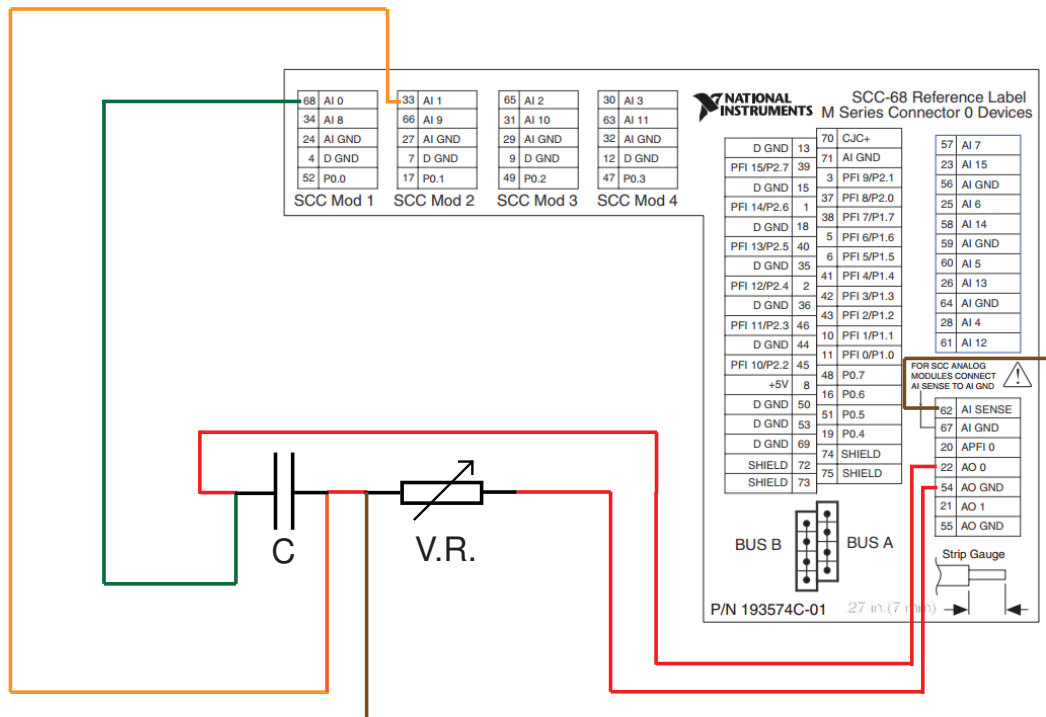

Figure 3: Typical connection diagram.
- 1 Connect the circuit on the breadboard. Refer to Figure 3 for assistance.